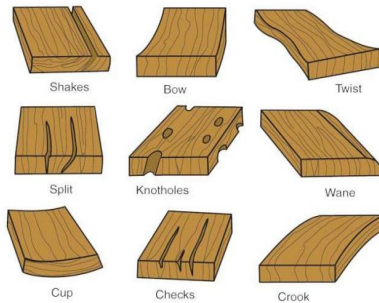

Fig. 128. Splits, Checks, Shakes, Wane and Warps.
4. Splits and Checks: A separation of the wood along the grain and across the annual growth rings (figure 128).
5. Shakes: A separation along the grain and between the annual growth rings (figure 128).
6. Wane: The presence of bark or the absence of wood along the edge of a board. It forms a bevel and reduces the useable width (figure 128).
7. Warp: Is any variation from a true surface and may include any one or combination of the following (figure 128):